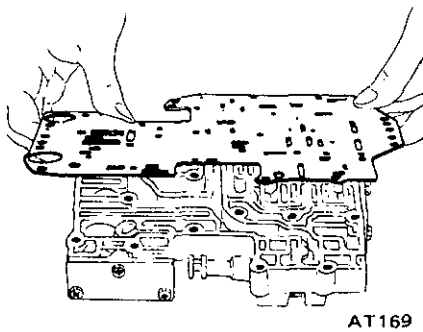

Fig. AT-102 Removing separate plate
2. Remove attaching bolts. With bolts removed, lower valve body, separate plate, and upper valve body are free for removal. See Figure AT-102.